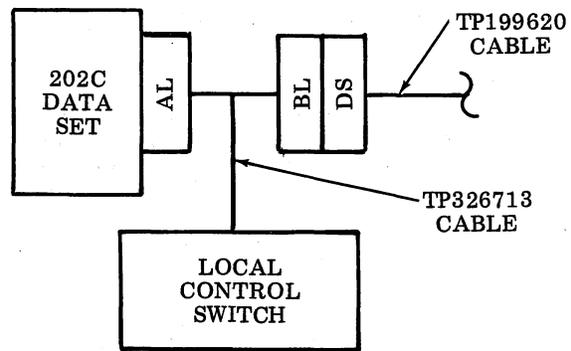

Figure 9 - Installation of TP326713 Cable at Sender
3.22 To reinstall the TP326713 local control cable, secure connector DS of TP199620 cable to connector BL of TP326713 cable (Figure 9) and secure connector AL to data set.